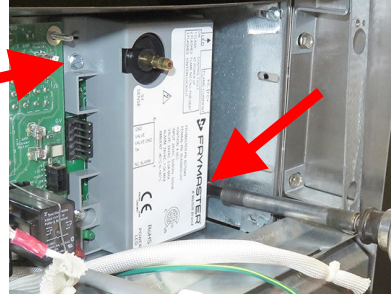

Figure 9
12. Attach the right module with a two screws (one in the upper left corner and one in the lower right corner) using the existing mounting holes (see Figure 9).